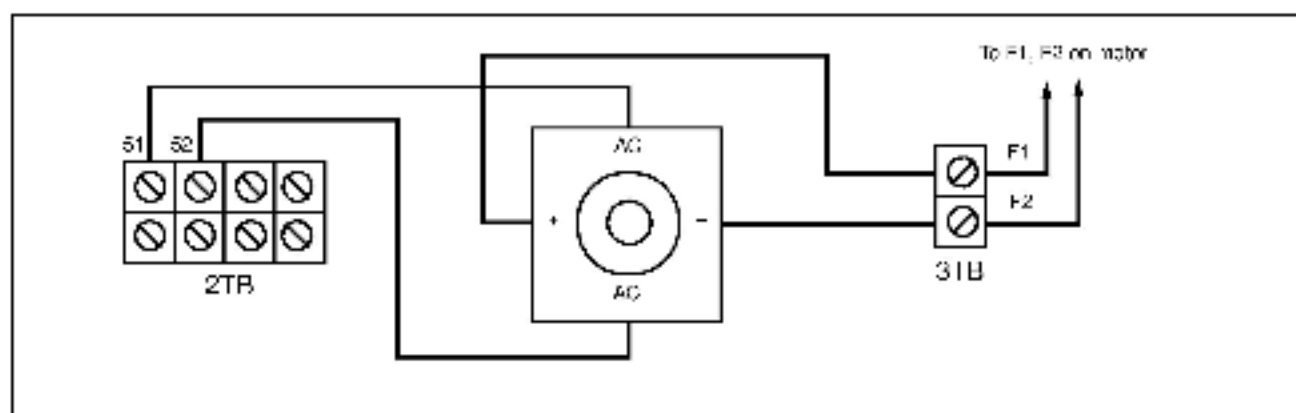

Figure 1 – Connecting the Field Supply (Full-wave)
- Step 7. **For a full-wave supply**, connect the motor field wires to terminals F1 and F2 on Field Supply terminal block 3TB. See figure 1.